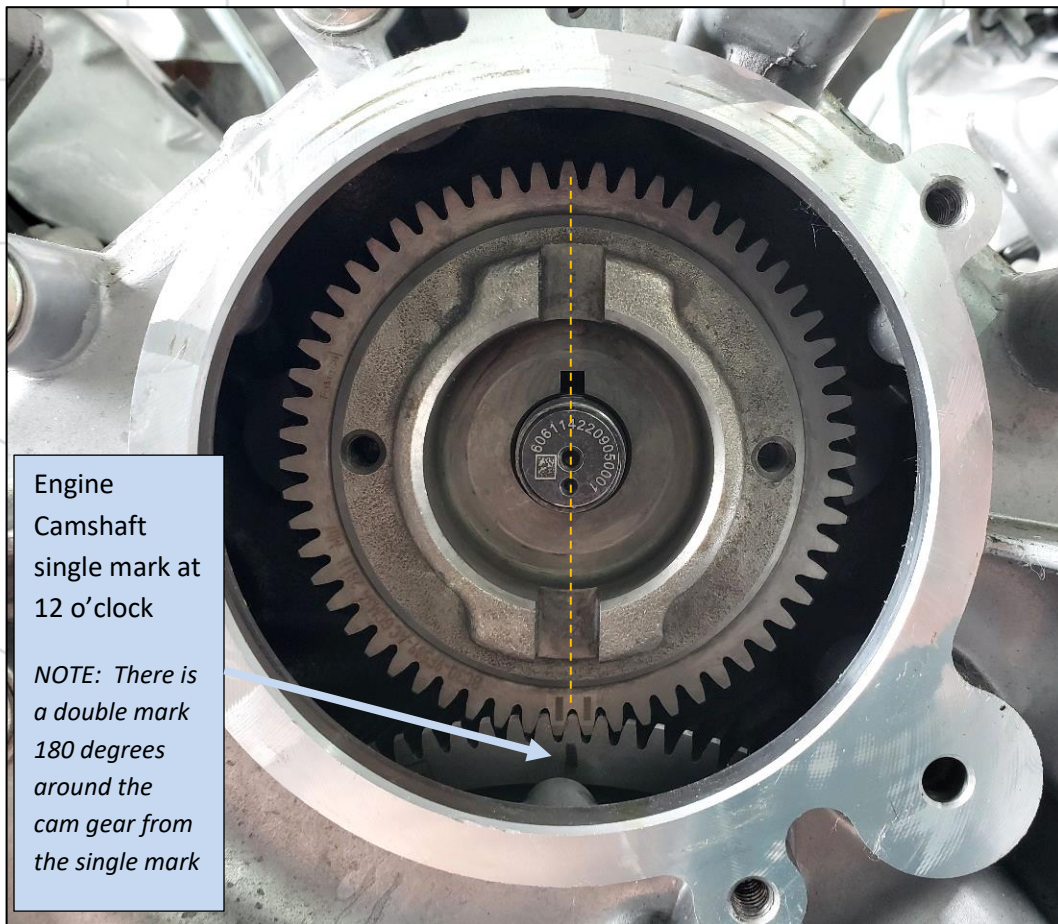

Figure 20: Rotate engine to TDC – Single Mark on the Engine Camshaft at 12 o'clock
**33. Fuel Pump Timing: Using an 18mm 12-point socket, turn the crankshaft clockwise to roll the engine over until the single mark on the camshaft gear is facing upward as shown (Figure 20).**